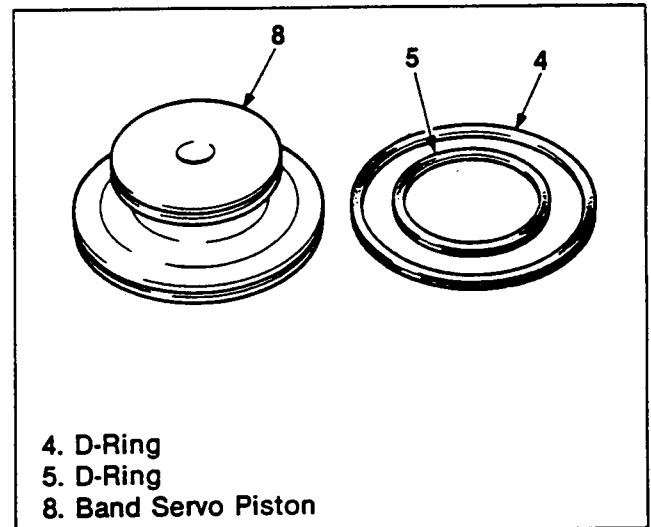

Figure 208. D-Ring Removal
6. Remove D-ring (2pcs) from the band servo piston (figure 208).